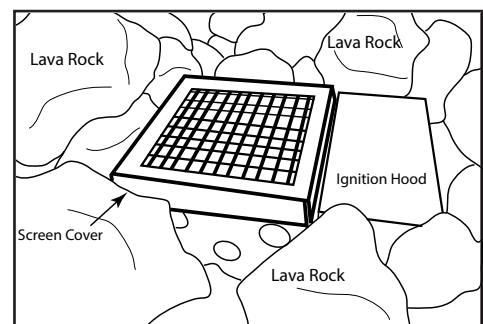

Fig.17 Keep screen cover exposed
**IMPORTANT:** Do not place rock over top or under the screen cover. The screen must be free of any debris to ensure proper lighting of burner and good flame sense (See fig. 17).